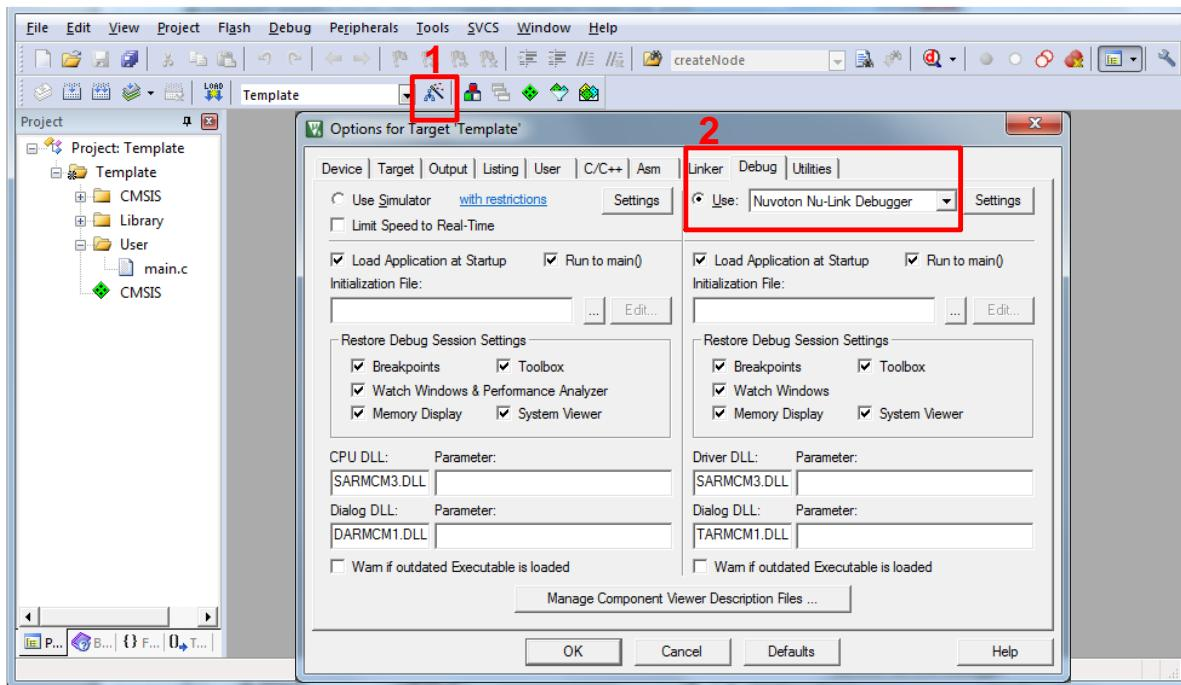
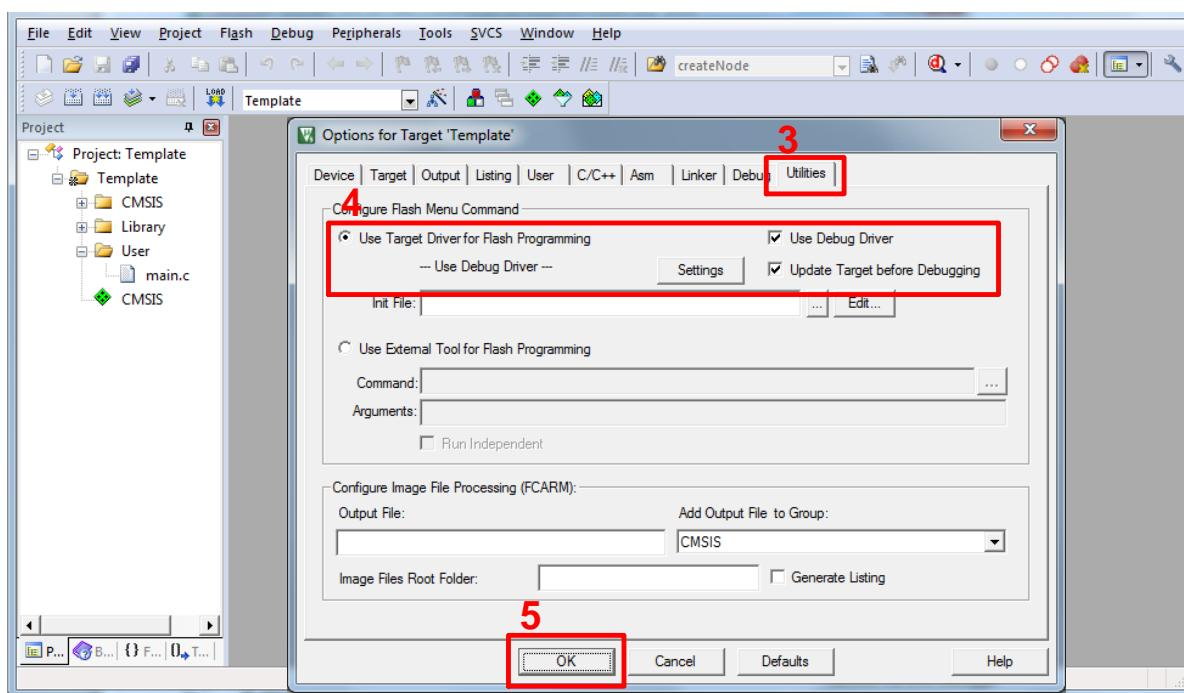

Figure 5.2-12 Debugger Setting in Options Window
Figure 5.2-13 Programming Setting in Options Window
(3) Invoke Project → Options for Target → Debug, and make sure the Use: 「Nuvoton Nu-Link Debugger」 option is checked, as shown in Figure 5.2-12 and Figure 5.2-13.